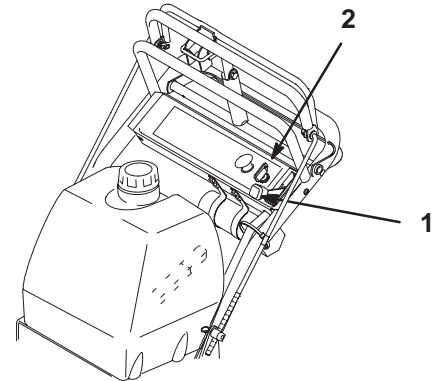

Figure 15
1. Move the throttle lever to **slow** (Fig. 15).
3. Turn the ignition key to **off** (Fig. 15).